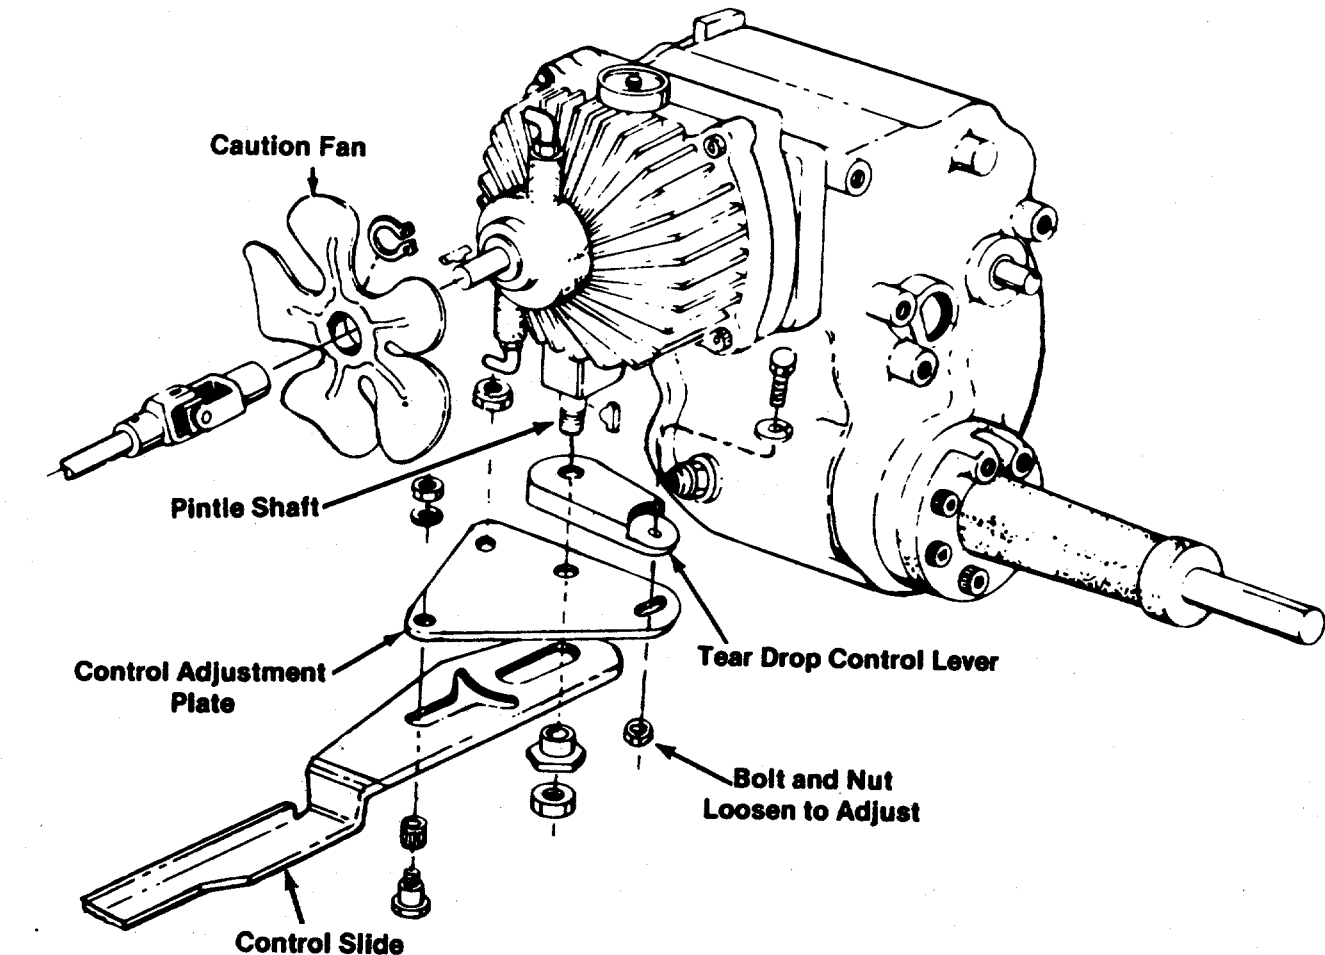

FIGURE 31.
Hydrostatic Control—Lubricate between the control slide and the control adjustment plate. (See figure 31.)
7. Loosen the bolt and nut on the control adjustment plate enough to allow the tear drop control lever and the control adjustment plate to move independently of each other. (See figure 31.)